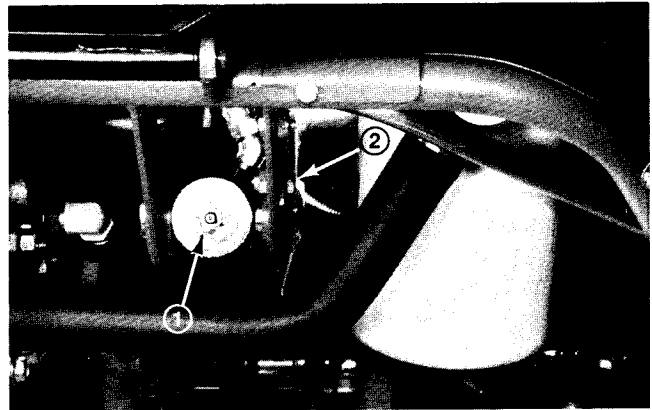

Figure 32
4. Remove pin securing barrel end of cylinder to the frame (Fig. 32).